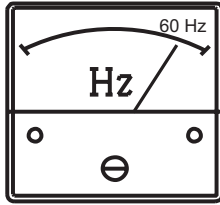

Figure 49. Frequency Meter
5. The generator's **frequency meter** (Figure 49) should be displaying the 60-cycle output frequency in **HERTZ**.